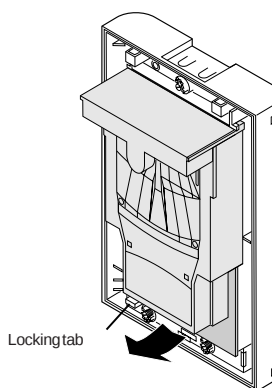

Figure 2. Locking Tab
2. Pull down on the plastic locking tab at the base of the circuit board to remove the mirror/circuit board assembly. See Figure 2.